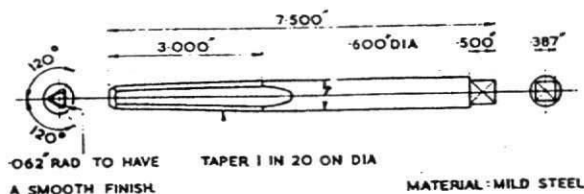

Fig. 5 Bentley 3½ and 4½ litre
(iii) Turn over the cylinder head so that the rocker shaft studs face upwards and expand by hand the ends of the tubes with the expanding tool, Fig. 5, by rotating it until it is felt that each tube is fully expanded against its tapered hole in the head; noting that undue pressure on the expanding tool is not necessary. A tap
3. Expanding tools (Figs. 5 and 6):